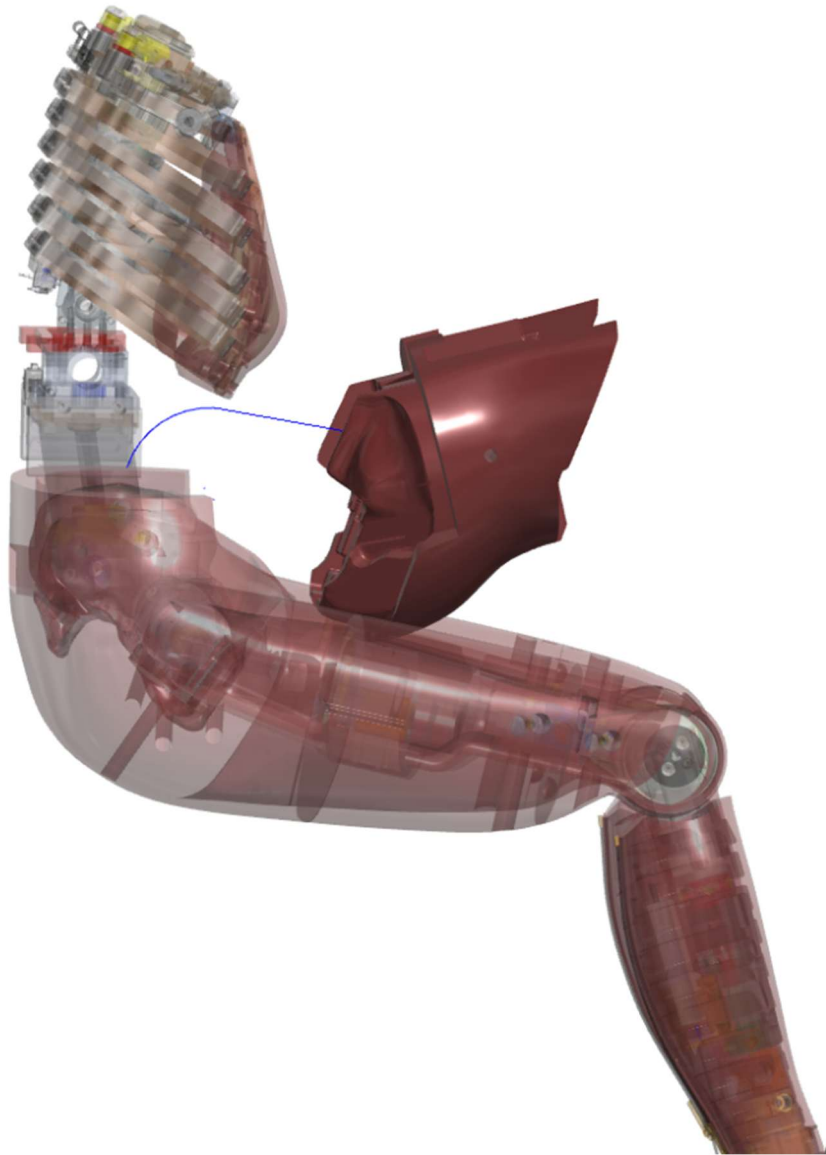

Figure 5-8. Remove the Abdomen Foam (474-4305)
- 5.2.2 Remove abdomen foam (474-4305) being careful not to tear it and rest it on the dummy's lap (Figure 5-8).